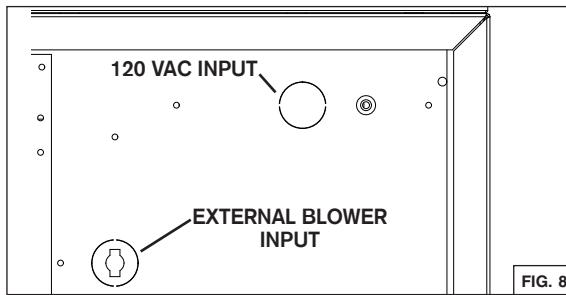

FIG. 8
1. Locate home power junction box (see FIG. 8 and 9) then remove the junction box cover.
1. Locate external blower junction box (see FIG. 8 and 10) then remove the junction box cover. Remove the knock-out from the housing. See FIG. 8 for knock-out position. Remove wire protection.